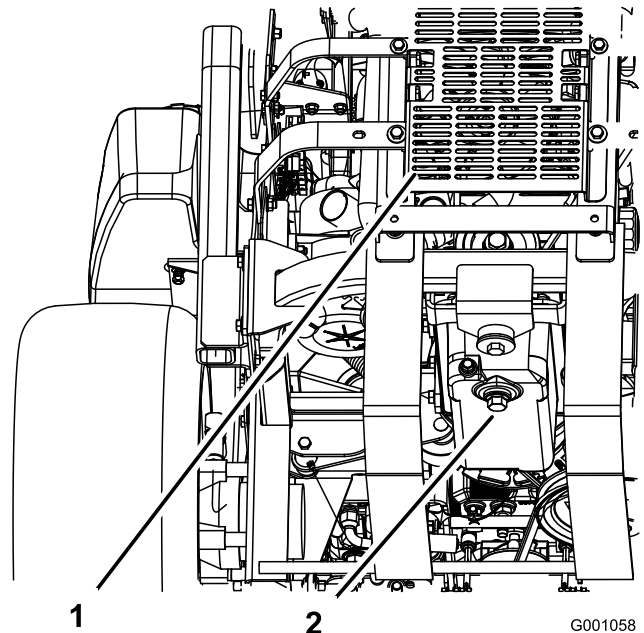

Figure 60
5. Place a pan below the oil drain. Remove the drain plug and let the oil drain completely (Figure 60).